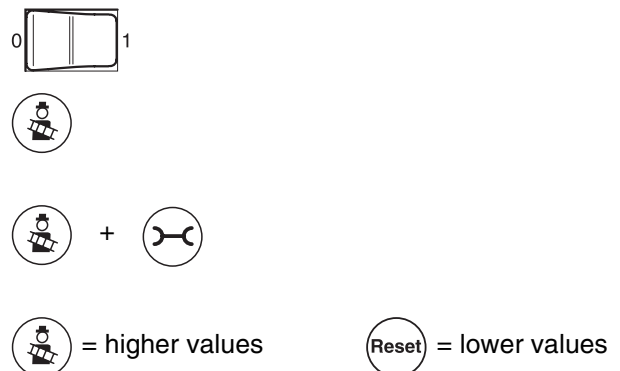

fig. 16 Setting the gas/air ratio
- If the gas/air ratio is not correct it can be adjusted using the adjustment screw (fig. 16, pos. 1). The adjustment screw is located behind the cover screw.